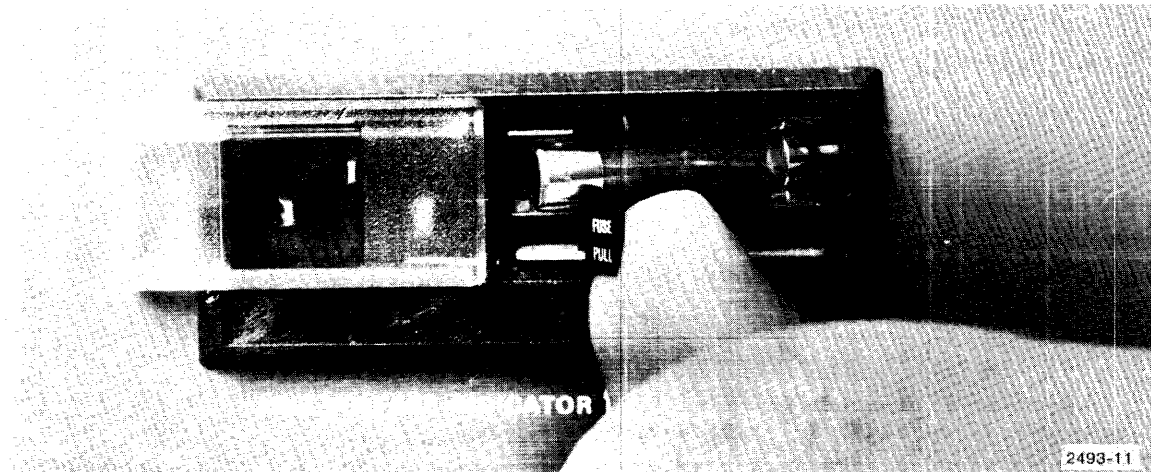

Figure 3-8. Removing fuse.
2. Remove fuse by pulling out lever marked FUSE PULL (Figure 3-8).